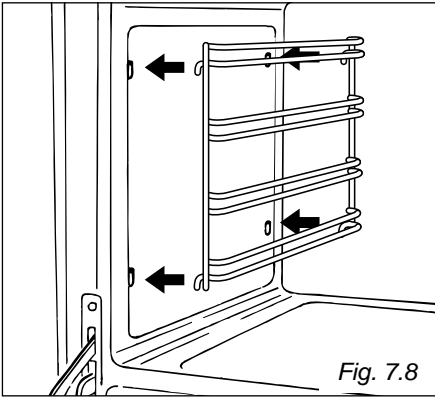

Fig. 7.8
- Fit the side runner frames into the holes on the side walls inside the oven (Fig. 7.8).